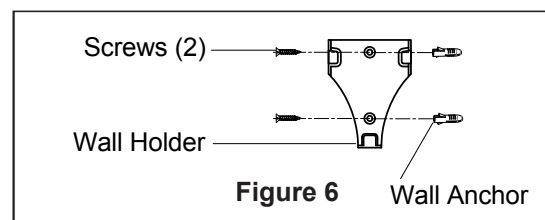

Figure 6
□ **Installing Wall Holder:** (Figure 6)